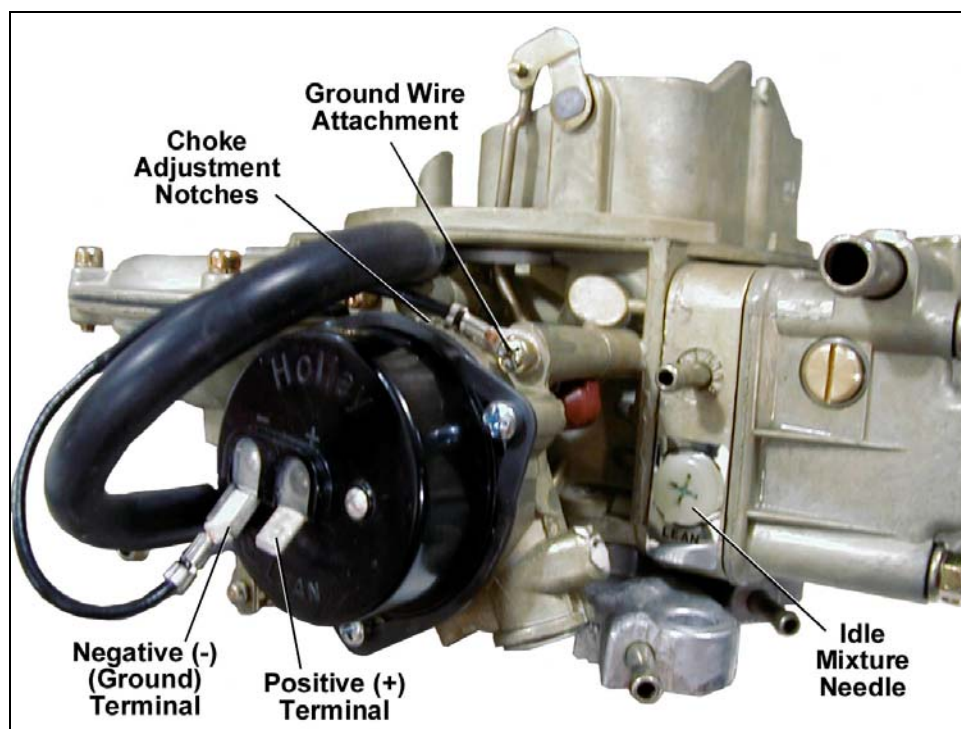

Figure 1
2. Take the short ground lead from the unassembled parts and connect the bayonet end to the proper terminal on the Holley electric choke cap. See Figure 1.
- C. Turn both idle mixture screws clockwise (rich) until they lightly seat (See Fig. 1). Reset the idle to correct speed.
The choke has been designed for use with a snorkel-type air cleaner, which provides pre-heated air to the carburetor. This air cleaner configuration is essential for proper choke operation, especially in severely cold climates. If an open element is used, it may be necessary to adjust the electric choke cap two notches lean (See Fig. 1) to ensure complete choke come-off in cold weather. Pre-heated air also improves fuel vaporization and combustion, which will ultimately improve fuel economy and driveability.